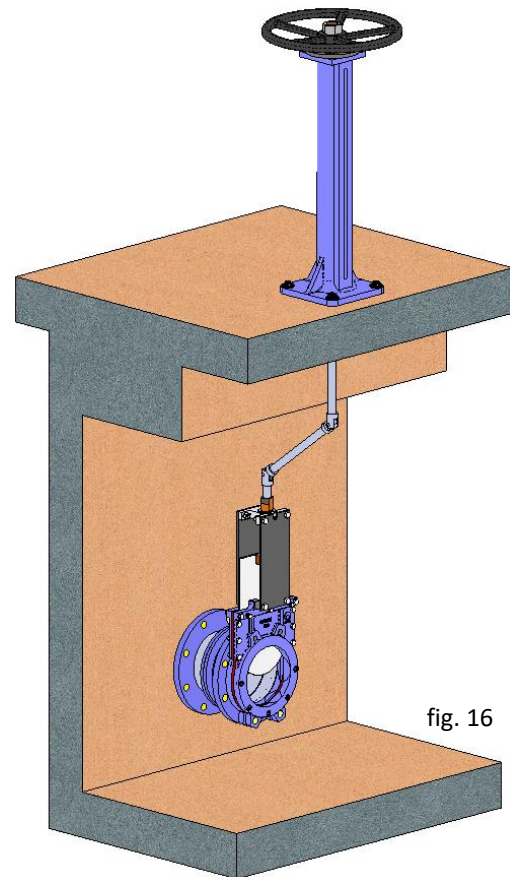

fig. 16
**4 - Extension: Cardan joint (fig. 16)**